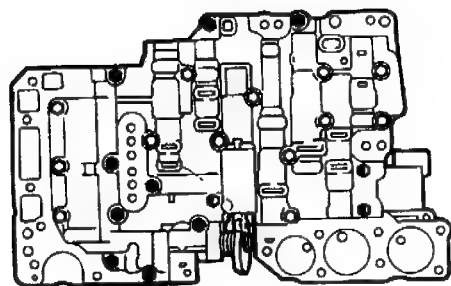

**Fig. 1 Valve Body Gasket No. 1**
- (1) Position new No. 1 gasket (Fig. 1) on upper body.
- (2) Position valve body plate on No. 1 gasket.